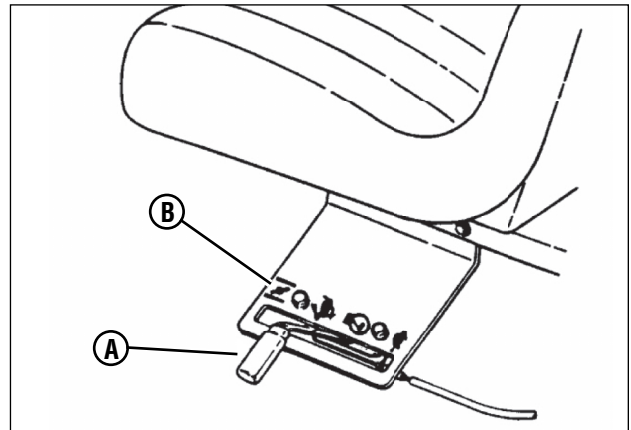

Figure 6: Engine speed control
5. Move the engine speed control (**A, Figure 6**) to the choke position (**B**) to start a cold engine.
5. Move the engine speed control (A, Figure 6) to the choke position (B) to start a cold engine.